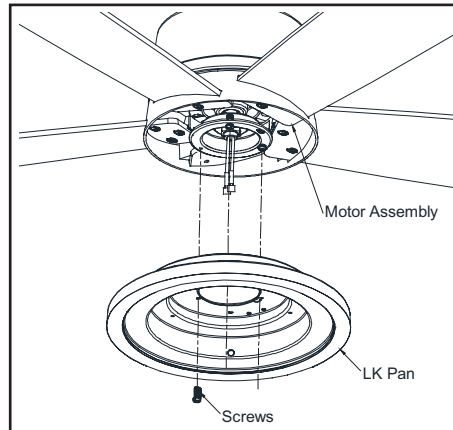

Figure 14
1. Loosen but do not remove two of three mounting screws from the fan motor assembly; Remove one mounting screw. (Figure 14)
2. Push the light kit pan up to the fan motor assembly so that the two loosened screw heads fit into the keyhole slots. Turn the light kit pan clockwise, tightened the screws. Re-install the screw that was removed in step 1 and tighten firmly. (Figure 14)